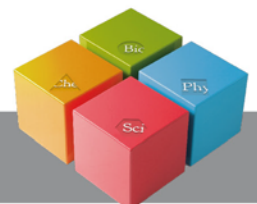

*Fig. 1 Initial AFM setup.*
- 1> Set up the system as described in the manual (fig 1), and mount the microstructure sample.